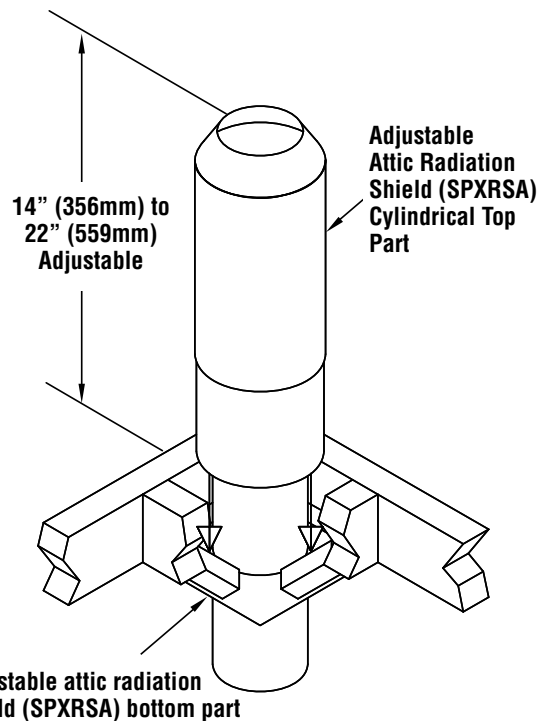

Figure 5d
- 4.2. If going through a storey and an attic. Do not block the hole over the support. At the attic level: install the bottom part (plate and tube) of the attic radiation shield below the ceiling using screws through the plate in the joists. From the top, insert the top cylindrical part of the attic radiation shield in the hole. It will be supported by the plate (see figure 5d). Adjust its height to the maximum possible within the space available.